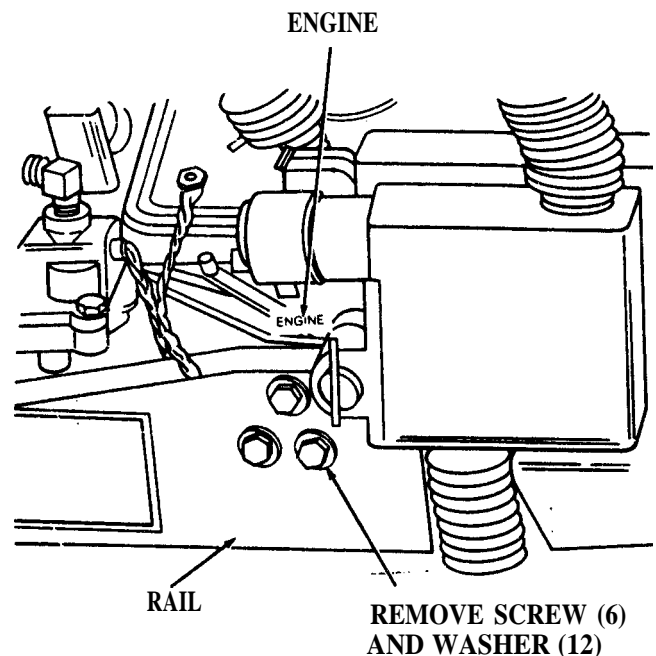

Figure 6-1. Engine, removal and installation.
(1) Remove the winterization hose from the engine (See military standard engine manual TM 5-2805-257-24P, Appendix A).
(2) Remove the generator (para 6-4 and 6-5).
(3) Refer to figure 6-1 and remove the engine.
(1) Refer to figure 6-1 and install the engine.
(2) Install the generator (para 6-4 and 6-5).
(3) Install the winterization hose on the engine (See military standard engine manual TM 5-2805-257-24P, Appendix A).